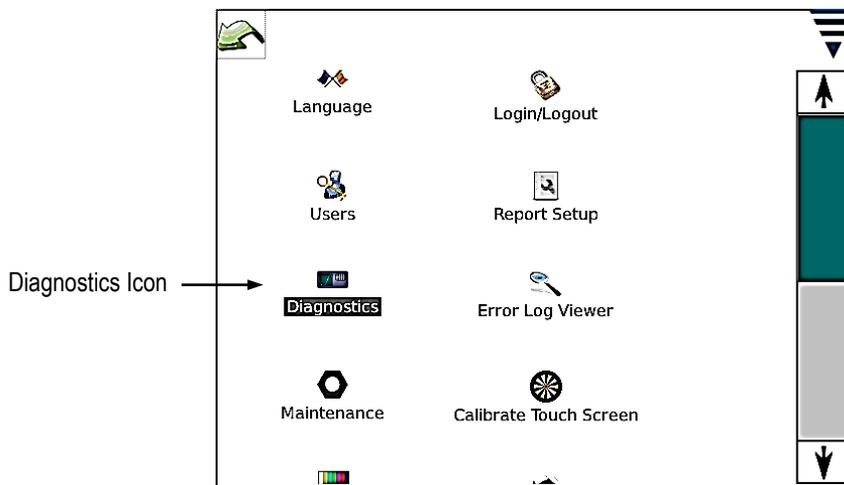

Figure 16
2. Scroll down and touch the Diagnostics icon. See Figure 16.